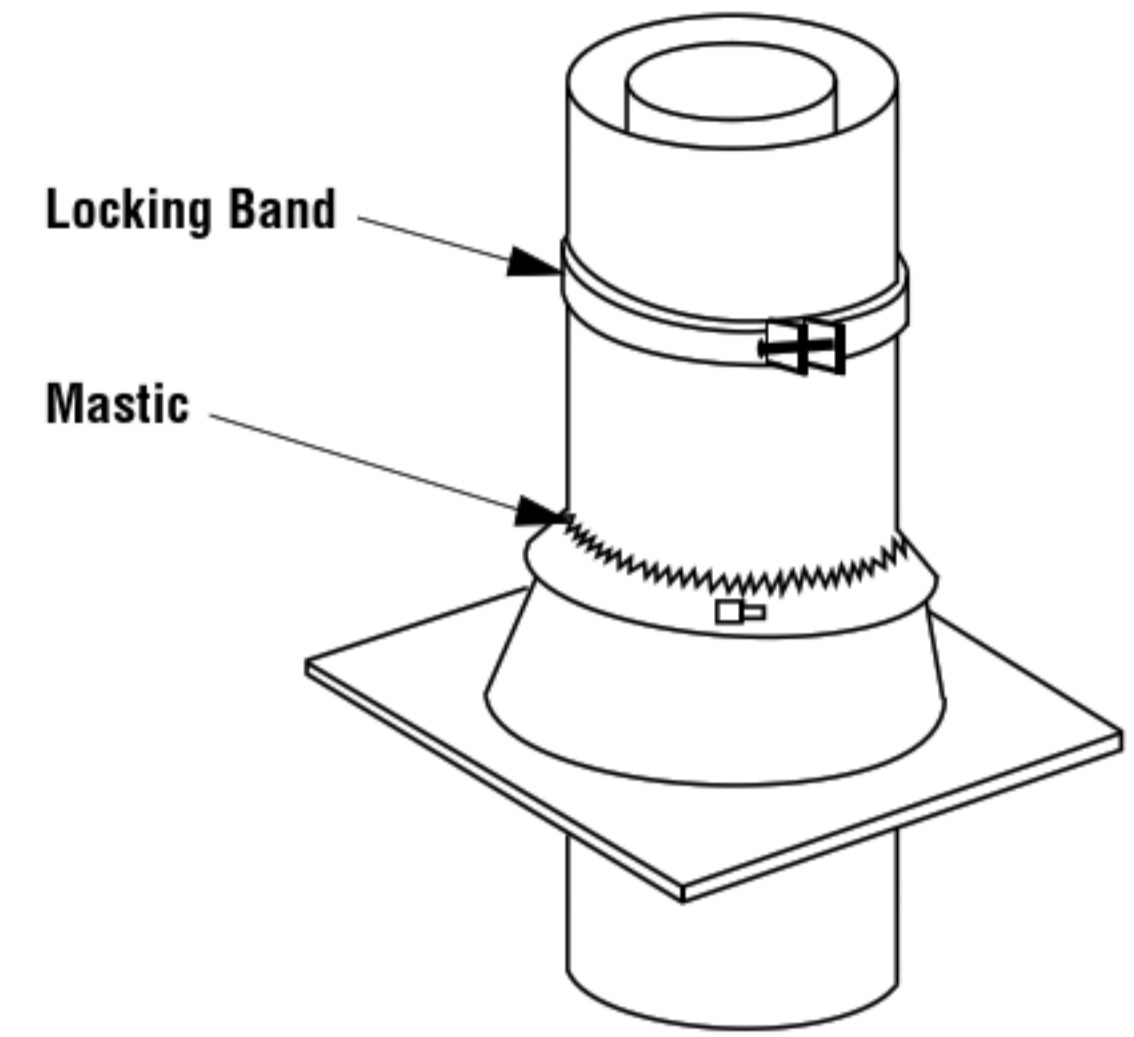

Figure 32
Step 8. The standard Security Chimneys FTF8 roof flashing assemblies include a storm collar. Slide the storm collar over outer chimney, rest on flashing spacers and align with top surface of flashing. Insert tab in slot, pull tight and bend tab back over slot. Seal storm collar to outer chimney with roof caulking or mastic around entire circumference of pipe. Also add extra roof caulking to the tab/slot area to seal completely against water penetration (*Figure 32*). Check all joints very carefully to ensure no water intrusion can take place.
Step 9. Security Chimneys locking bands, Model FLB, may be required if the chimney extends too high above the roof flashing. As a general rule, if the chimney extends more than 6' above the roof flashing, the use of locking bands is advisable to strengthen the chimney assembly. Align the locking band at the chimney joint. Locking bands wrap around pipe joints equally covering the joints of both pipe sections. Use the nut provided and TIGHTEN snugly. Do not overtighten as this might damage the chimney section (*refer to Figure 32*).